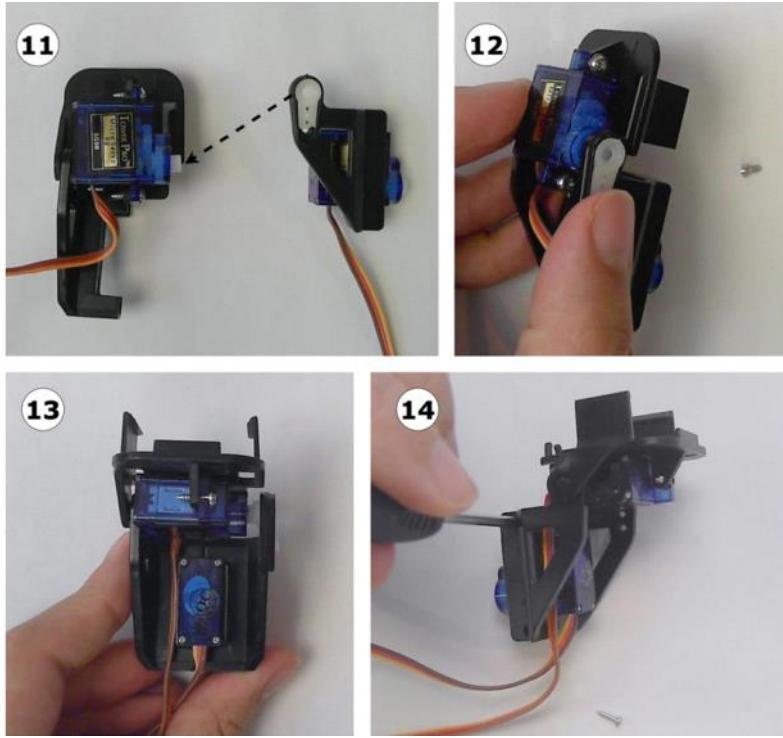

Figure 10.14 – Combining the left arm and right arm
- Figure 10.14 shows how to bring the left and right arm of the mechanism together. When combining the arms, the right arm servo horn's collar should clip around the tilt servo you screwed onto the tilt plate.